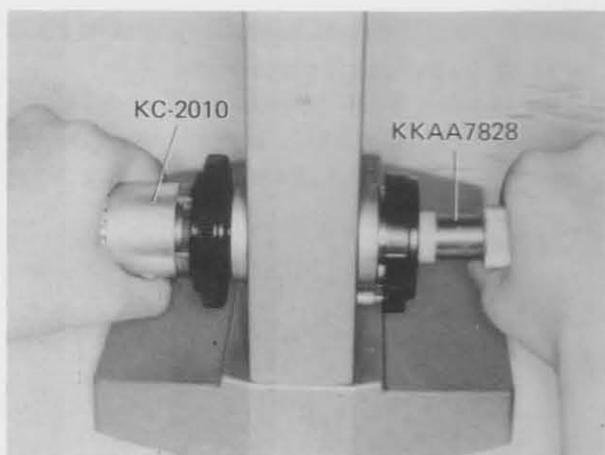

Fig. 3-26
- Set Tool KC-2010 on the right Gear ZJ-808900, and set Tool KKAA7828 on the left Nut AA782800. (See Fig. 3-26)